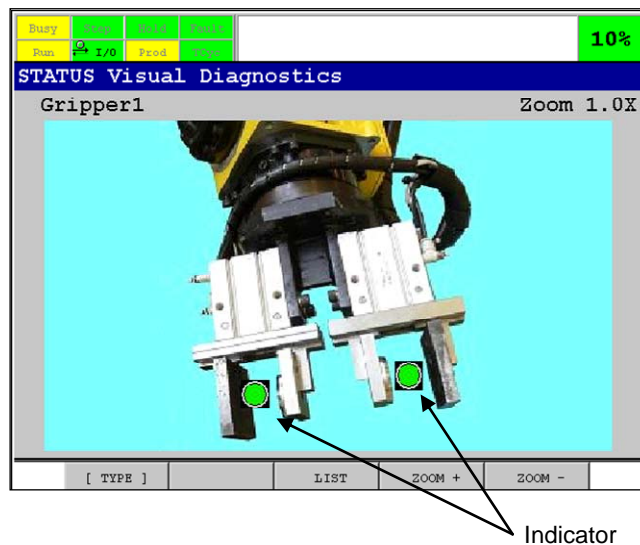

Fig.51 Simple Gripper Example
Visual Diagnostics uses the *iPendant* animated picture display capability to provide a rich visual presentation of status information. A Visual Diagnostic (VD) screen is one that displays a reference image as the background, and small indicator images strategically placed and activated in the foreground. The appearance of the indicator images is driven by the state of information within the controller. This can be useful, for example, in an application in which the robot is welding. Each weld position could be monitored and visually represented so that the success or failure of a weld is reported by green and red indicators. See Fig.51 for another example.